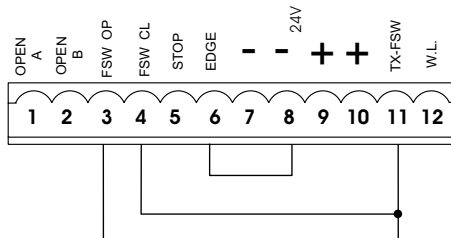

Fig. 5
**N.B. If safety devices are not used, jumper connect the terminals as shown in fig. 5.**
**NB.: If no opening safety devices are connected, jumper connect inputs OP and -TX FSW (fig. 5).**
**NB.: If no closing safety devices are connected, jumper connect terminals CL and -TX FSW (fig. 5).**
**NB.: If edge safety devices are not connected, jumper connect the EDGE and - inputs. (fig. 5).**